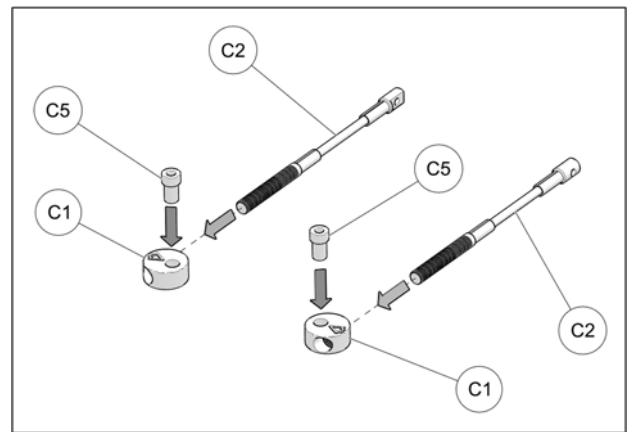

Fig. 19
- Assemble steering limiter cables (C2), aluminium disks (C1) and step spacers (C5) together as shown on Fig. 19